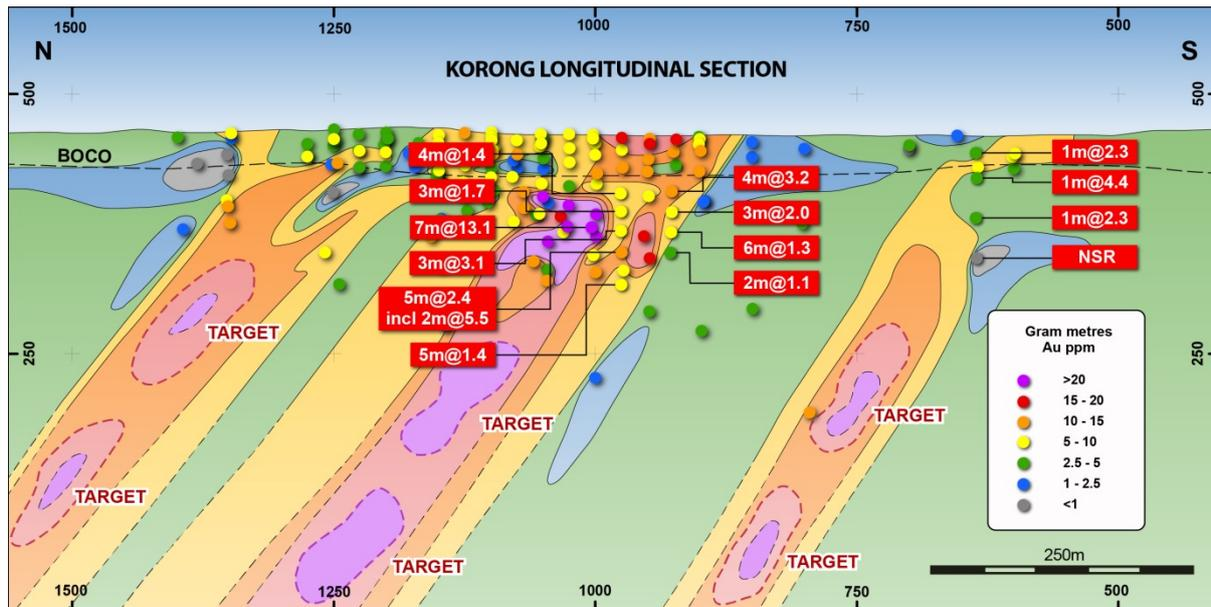

Figure 1 – Korong Longitudinal Section with interpreted gold lodes
- Assay results have been received for the first 14 holes from the recently completed 19-hole/~2,100m Reverse Circulation drilling program at the Monument Project (Figure 1).
- Multiple shoots of higher-grade mineralisation are evident within the envelope, which also plunge to the north (Figure 1). Significant potential exists with further drilling to expand this large mineralised system.